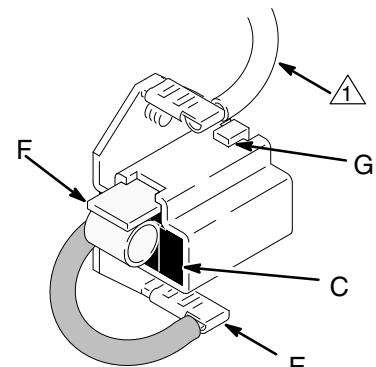

Fig. 16
6. Place a new brush (C) in the holder (B) so the ramp (H) faces the spring. See Fig. 16.
7. Holding the spring clip (F) at a slight angle, slide the spring clip into the brush holder and hook it over the end of the holder. See Fig. 16. Pull on the spring clip to be sure it stays in place. Connect the brush lead to the blade connector (E).